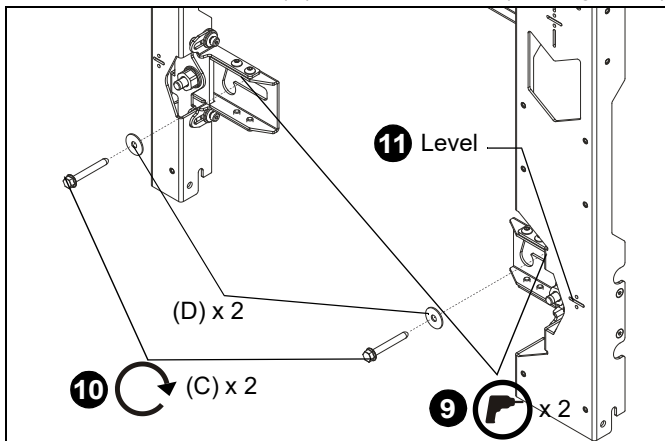
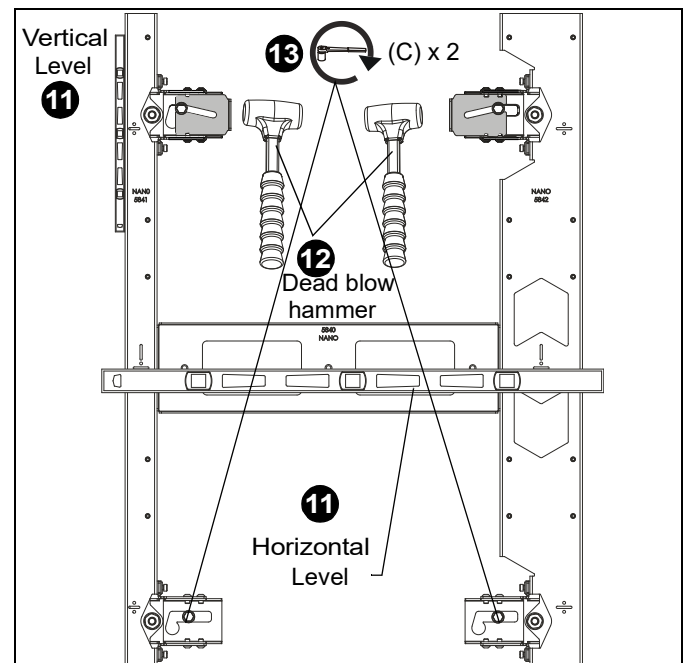

Figure 12
Figure 13
9. Drill pilot holes near top of centerline of lower slots for maximum height adjustment (see Table 1 for size) and follow fastener information (appropriate for wall type) located in Table 1. (See Figure 12)
10. Loosely install 5/16 x 2-1/2" lag screws (C) through the 5/16" fender washers (D) to secure to wall. (See Figure 12)
11. Check the level of the mount horizontally at the bottom of the leveling slots and vertically on the side of the uprights. (See Figure 12) and (See Figure 13)
12. If the mount is not level, slide or use a dead blow hammer to lightly tap the spacer into place. This will lift the mount up as the lag screw rides in the washer's angled slot. (See Figure 13)
13. Tighten the bottom lag screws (C) to allow for leveling adjustment if needed later. (See Figure 13)